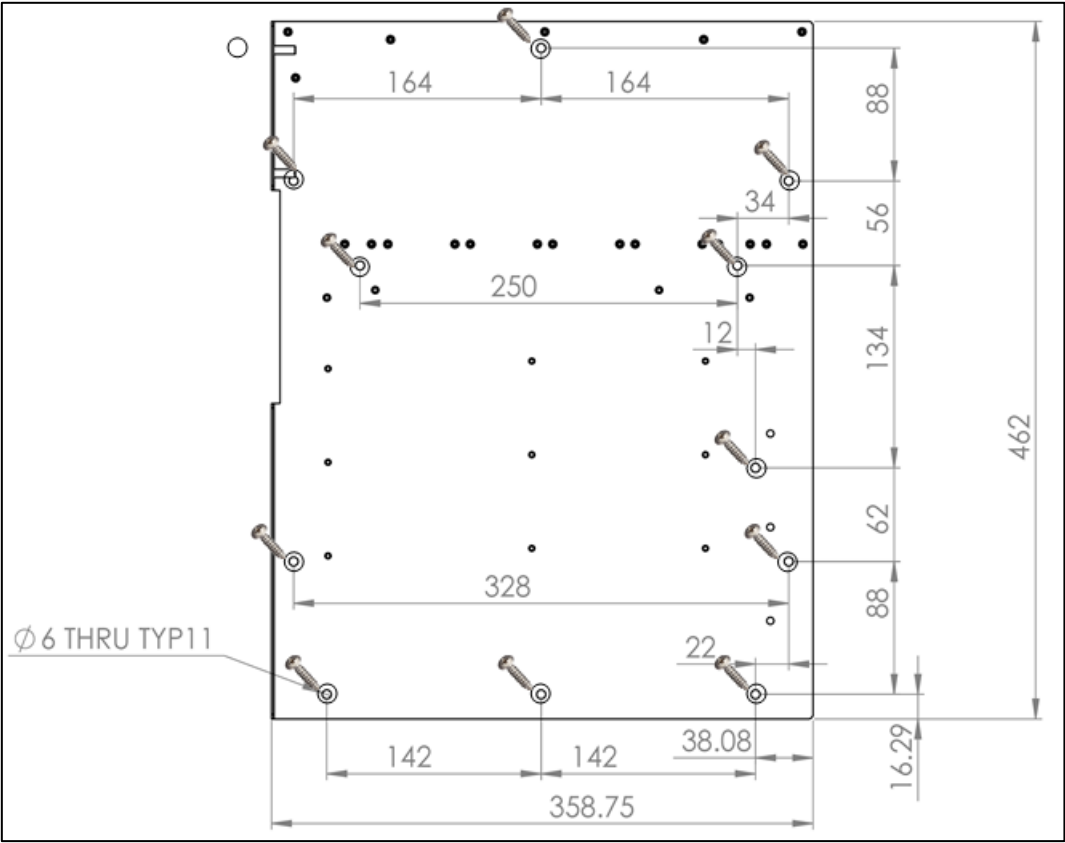
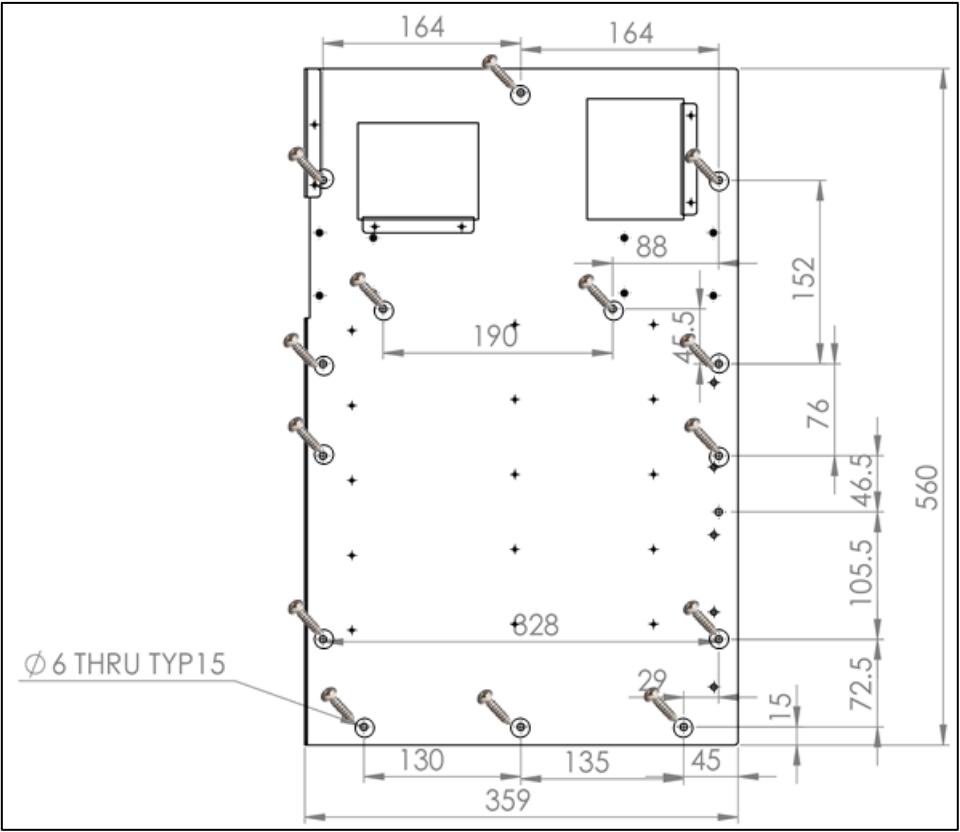

Figure 58: Platinum Pro 30 and Platinum Touch 30 Dimensions
Figure 59: Platinum Pro 50 and Platinum Touch 50 Dimensions
- Cut a hole in the door that is 20 millimeters larger than the dimensions shown in Figure 58 and Figure 59.